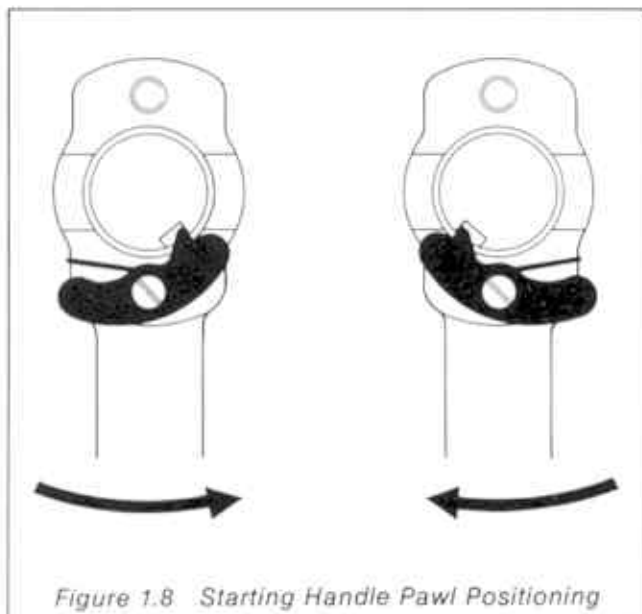

Figure 1.8 Starting Handle Pawl Positioning
1.42 The starting handle can be arranged for either clockwise or counter-clockwise rotation of the starting shaft as shown in Figure 1.8. Check that the pawl is correctly assembled. The pawl may be fitted at the top or bottom to give alternative starting positions.